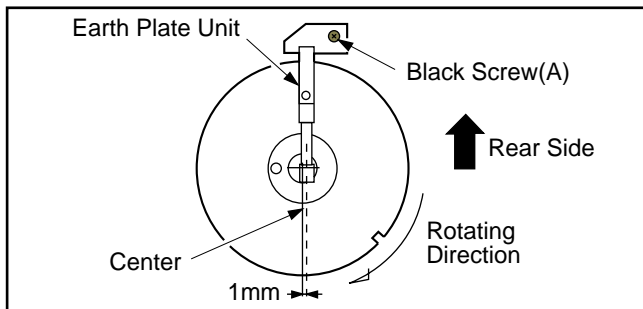

Fig. M6
Remove the Mechanism Unit. Place it upside down. Check to see if the Earth Plate Unit is properly set in a position just less than 1mm (but not more than 1mm), as measured from the center of the plate to the center of the Cylinder Shaft as shown in Fig. M6. If required, adjust the Earth Plate Unit position by loosening Black Screw (A).